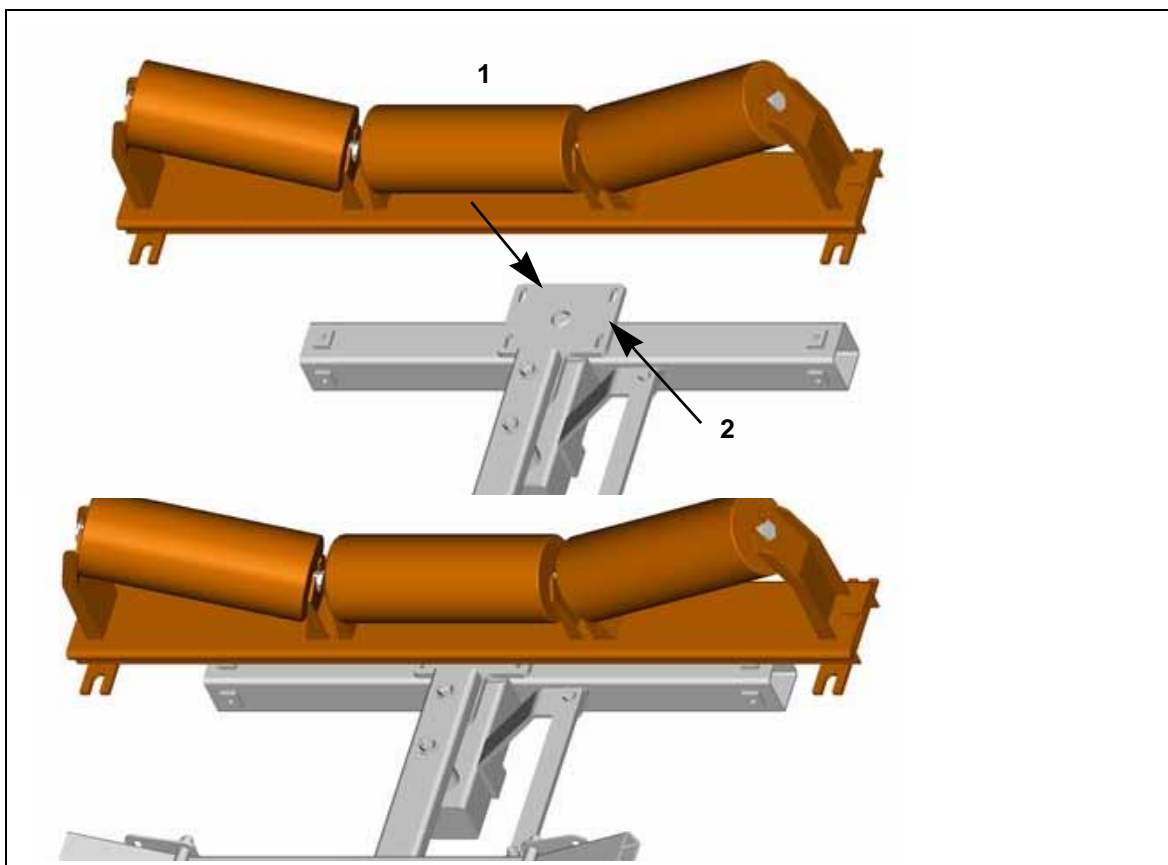

Fig. 14: Assembling the trough roller station / roller station holder
1. Remove the existing trough roller station (1, Fig. 14) available in the conveyor system.
2. Fix the trough roller station to the roller station holder (2, Fig. 14) of the tracker with screws or by welding it.